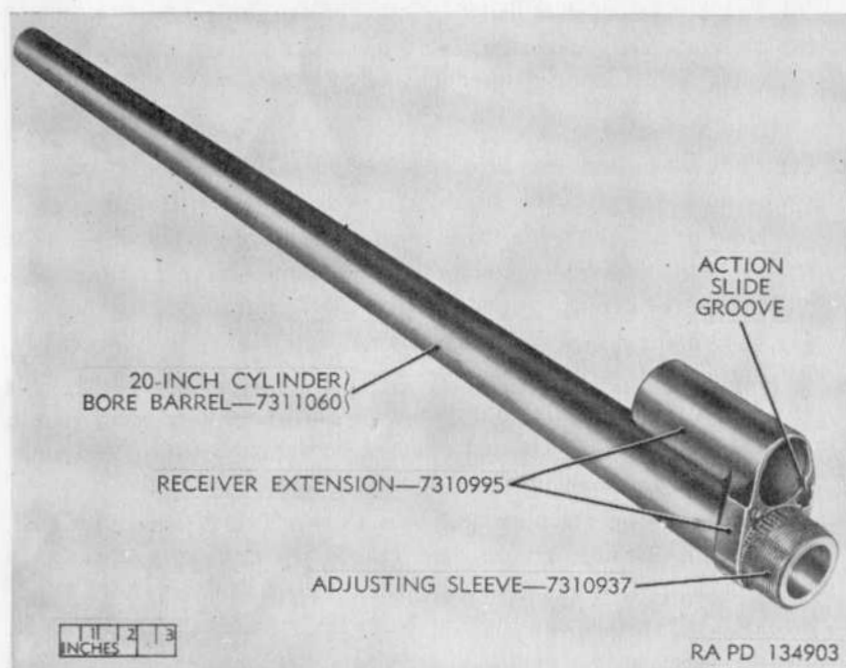
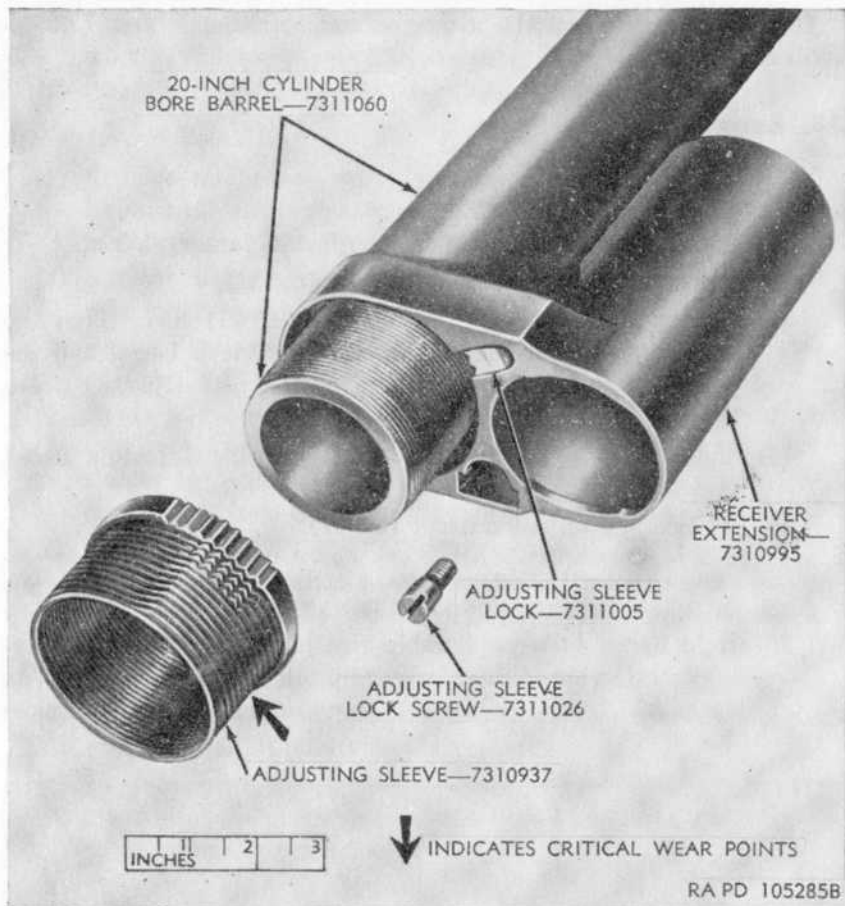

Figure 21. Barrel group for Winchester shotgun M12.
Figure 22. Barrel group—partially exploded view.
(figs. 21 and 22)
- (1) Remove the barrel group as described in paragraph 35a.
- (2) Remove adjusting sleeve lock screw (fig. 22).
- (3) Note position of adjusting sleeve (fig. 21) and record the number of threads engaged with the 20-inch barrel and the particular splined serration engaged with the adjusting sleeve lock (fig. 22).
- (4) Slide adjusting sleeve lock away from the adjusting sleeve (fig. 22).
- (5) Remove the adjusting sleeve (fig. 22).
Note. The adjusting sleeve lock cannot be removed unless the receiver extension (fig. 22) is removed and this is only done if the parts are to be replaced (DEPOT MAINTENANCE ONLY).
(7) Slide adjusting sleeve lock (fig. 22) from receiver extension.
- (1) Slide adjusting sleeve lock in its aperture in the receiver extension (fig. 22).
- (3) Screw the adjusting sleeve on the 20-inch barrel until it is seated against the receiver extension (fig. 22). Back the adjusting sleeve off the barrel until the first serrations on the adjusting sleeve are alined with the adjusting sleeve lock. Push the adjusting sleeve lock against the serrations in the adjusting sleeve.
- (4) Install the adjusting sleeve lock screw (fig. 22).
- (5) Install the barrel group as described in paragraph 43d.